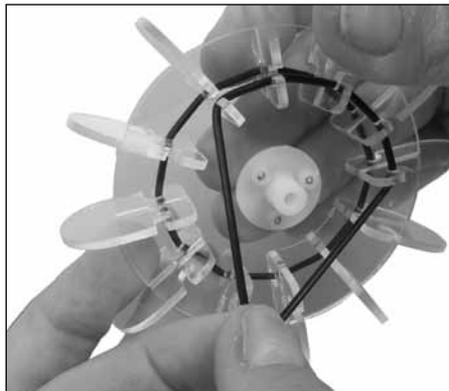

Figure 6
8. Stretch the other O-ring on the other side of Part E, hooking it over the blades' second set of hooks (Figure 6). This is the turbine wheel.